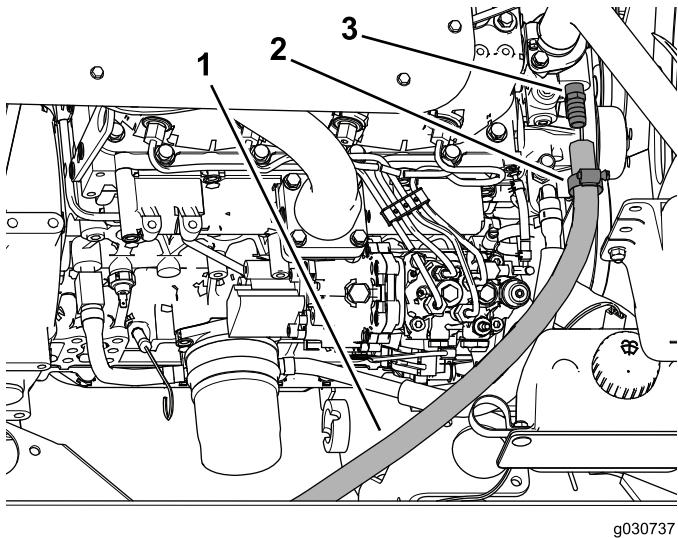

Figure 39
5. Slide the hose clamp over the supply hose and then insert the hose over the fitting (3/8 NPT x 0.625 barb) as shown in Figure 39.